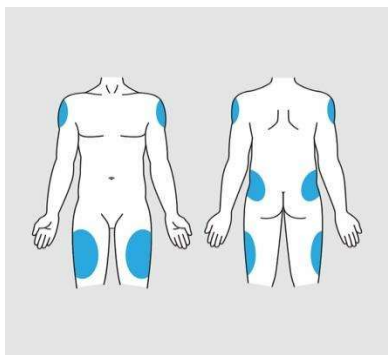

Figure 12: Subcutaneous injection sites
1. Choose the injection site. Subcutaneous injection sites include stomach area (abdomen), thighs, upper arms, and buttock. (Figure 12)